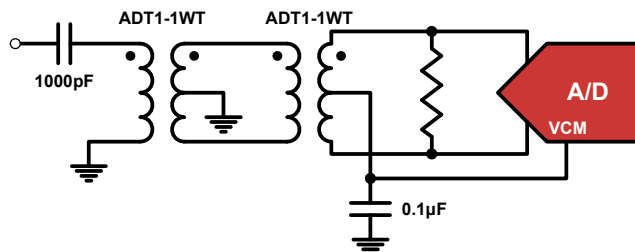

FIGURE 28. TRANSFORMER INPUT FOR GENERAL PURPOSE APPLICATIONS
Best performance is obtained when the analog inputs are driven differentially. The common-mode output voltage, VCM, should be used to properly bias the inputs as shown in Figures 28 through 30. An RF transformer gives the best noise and distortion performance for wideband and/or high intermediate frequency (IF) inputs. Two different transformer input schemes are shown in Figures 28 and 29.